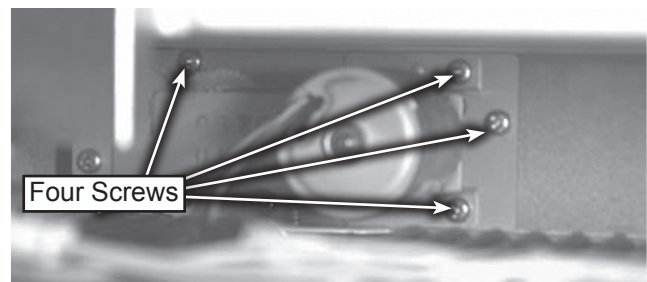

Figure 2
8. Remove the (4) screws holding the auto drawer gear to the bottom cavity angle, see figure 2.